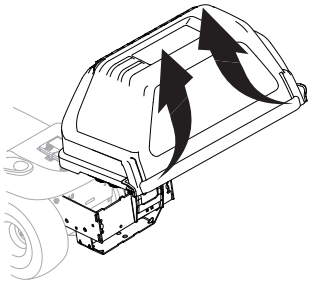

Figure 13
8. Open the bagger cover by pushing in on the tabs and lifting the hood assembly. See Figure 13.